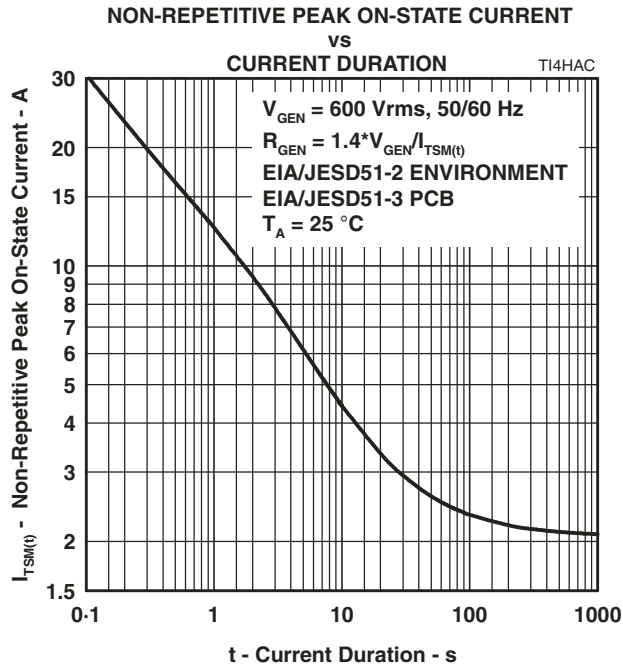

Figure 8.
5. EIA/JESD51-2 environment and EIA/JESD51-3 PCB with standard footprint dimensions connected with 5 A rated printed wiring track widths. See Figure 8 for the current ratings at other durations. Derate current values at  $-0.61\text{ }^{\circ}\text{C}$  for ambient temperatures above  $25\text{ }^{\circ}\text{C}$ .
The protector can withstand currents applied for times not exceeding those shown in Figure 8. Currents that exceed these times must be terminated or reduced to avoid protector failure. Fuses, PTC (Positive Temperature Coefficient) resistors and fusible resistors are overcurrent protection devices which can be used to reduce the current flow. Protective fuses may range from a few hundred milliamperes to one ampere. In some cases, it may be necessary to add some extra series resistance to prevent the fuse opening during impulse testing. The current versus time characteristic of the overcurrent protector must be below the line shown in Figure 8. In some cases, there may be a further time limit imposed by the test standard (e.g. UL 1459 wiring simulator failure).